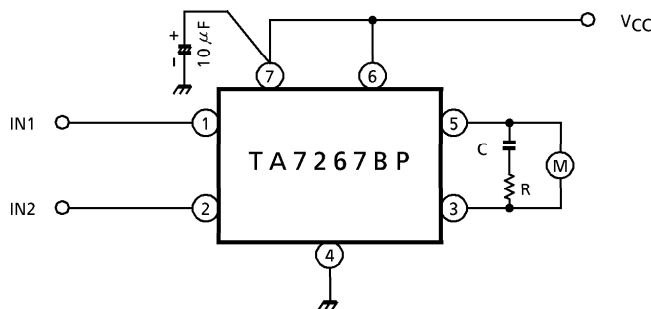
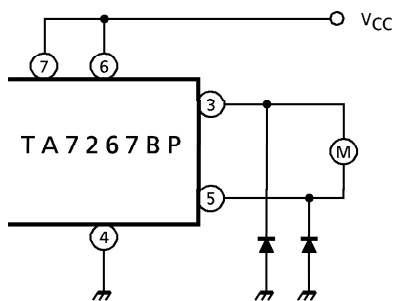

Fig.3
Fig.4
- (Note 1) Fig.3 shows the basic application circuit. Optimum values of the C, R depend on the inherent constant of a motor and parasitic C, R values around the circuit.
(3) Additional diode
- i) If the braking operation is so loose, connect a additional diode between each output to GND. (See Fig.4)